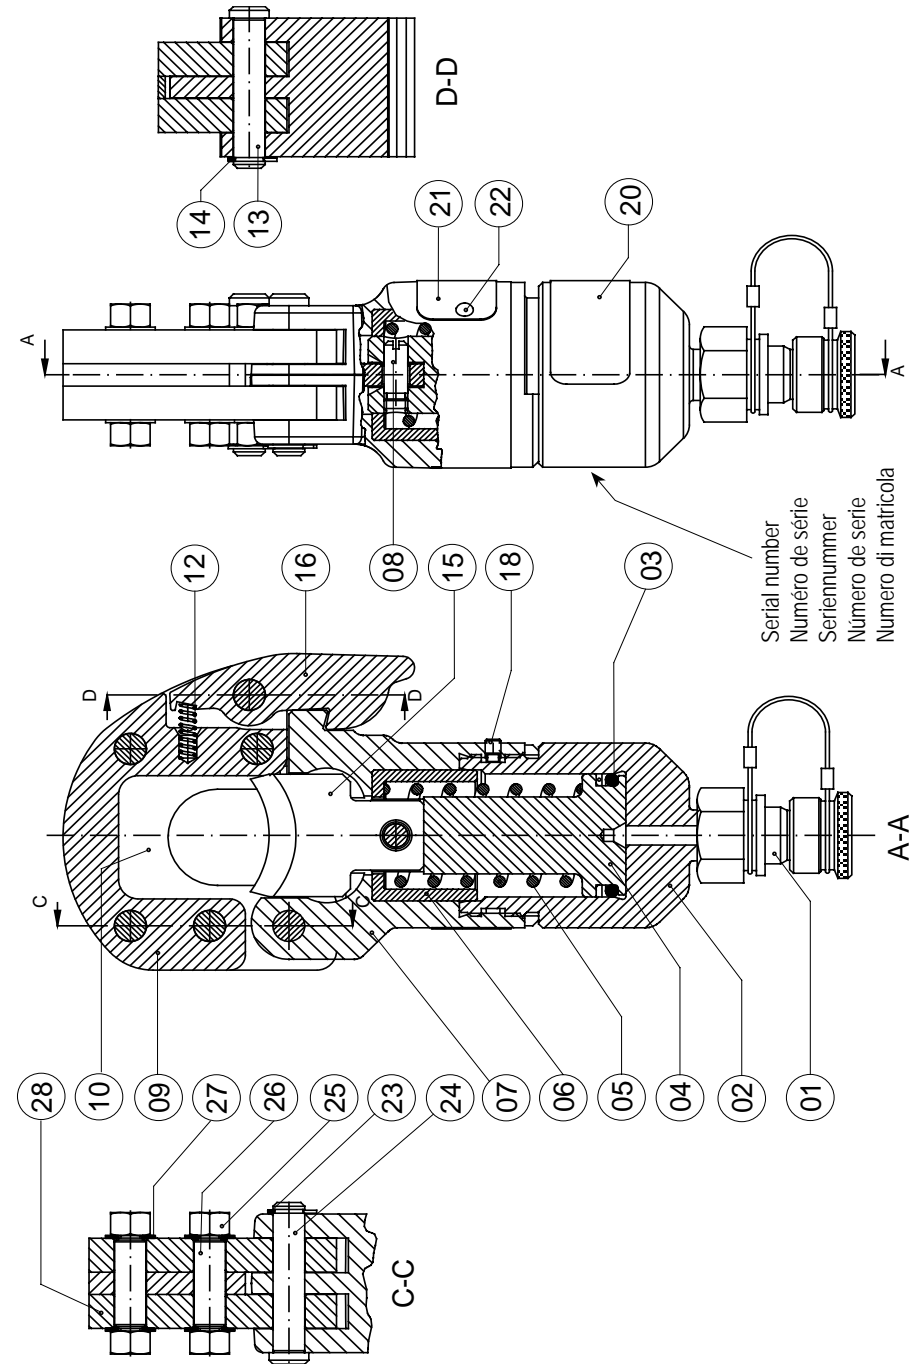

FIG. 4
6. LISTA DEI COMPONENTI (Rif. a Fig. 4)
2.1) Setting (Ref. to Fig. 4)